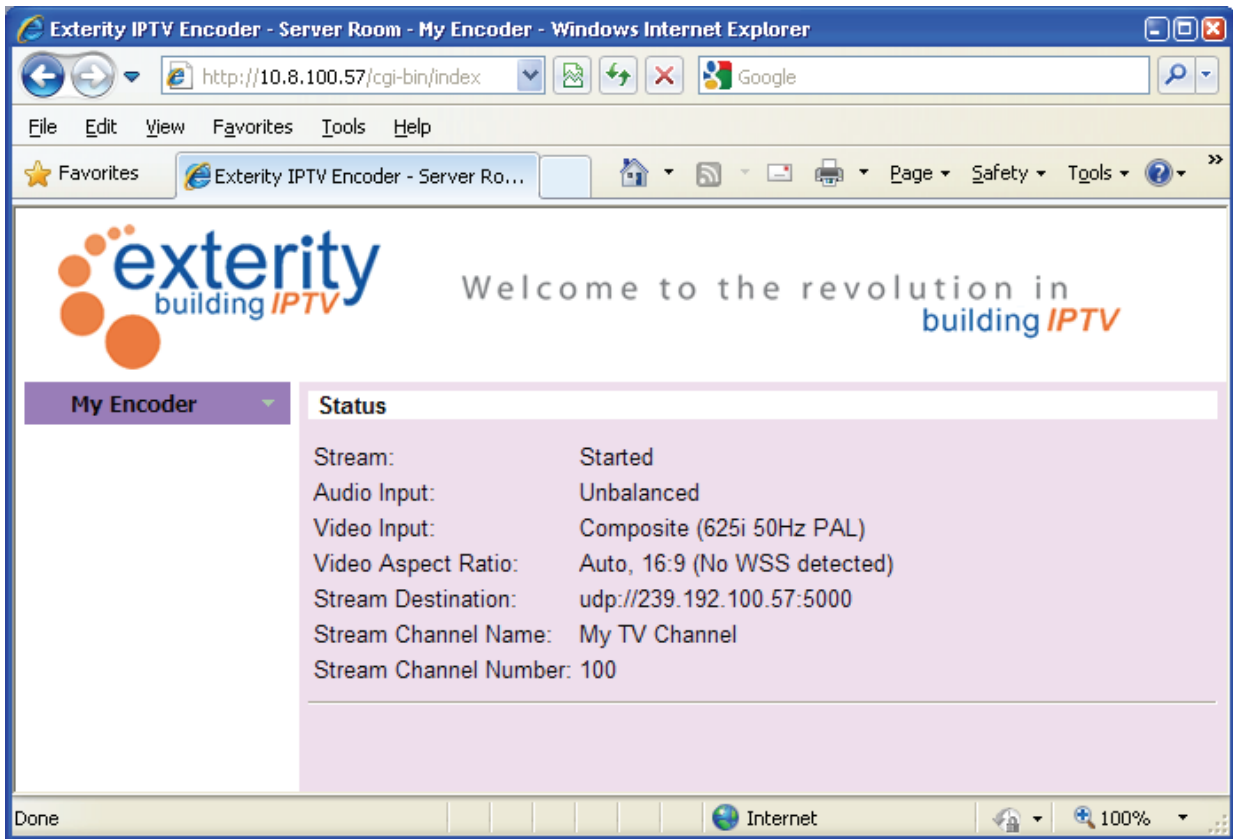

Figure 3 Web Management interface
2. The web management interface opens in your browser as shown in Figure 3.